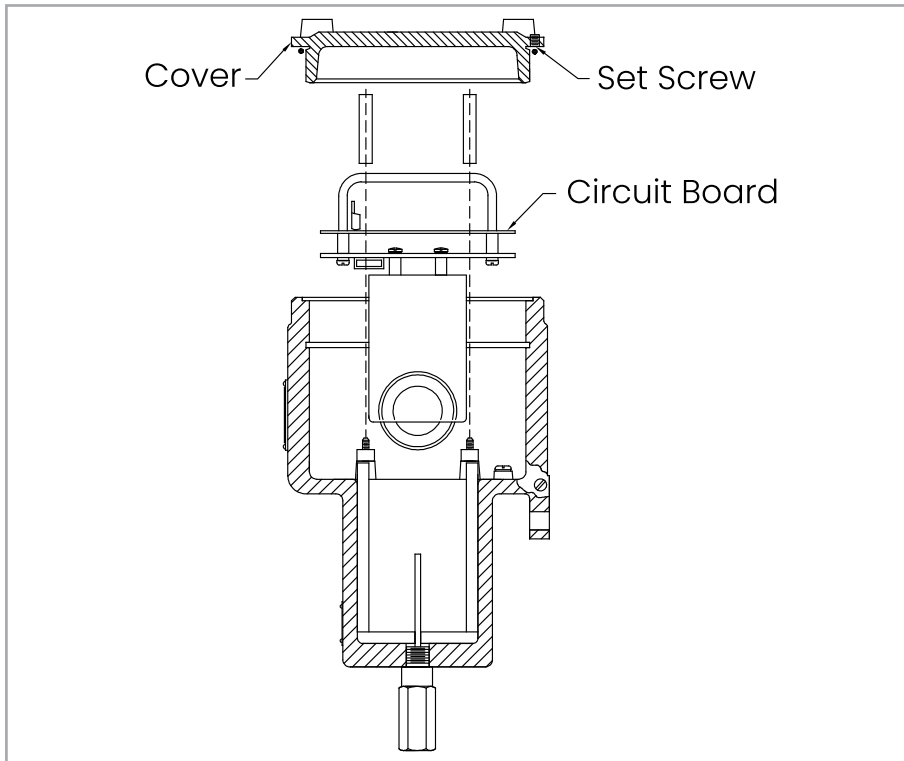
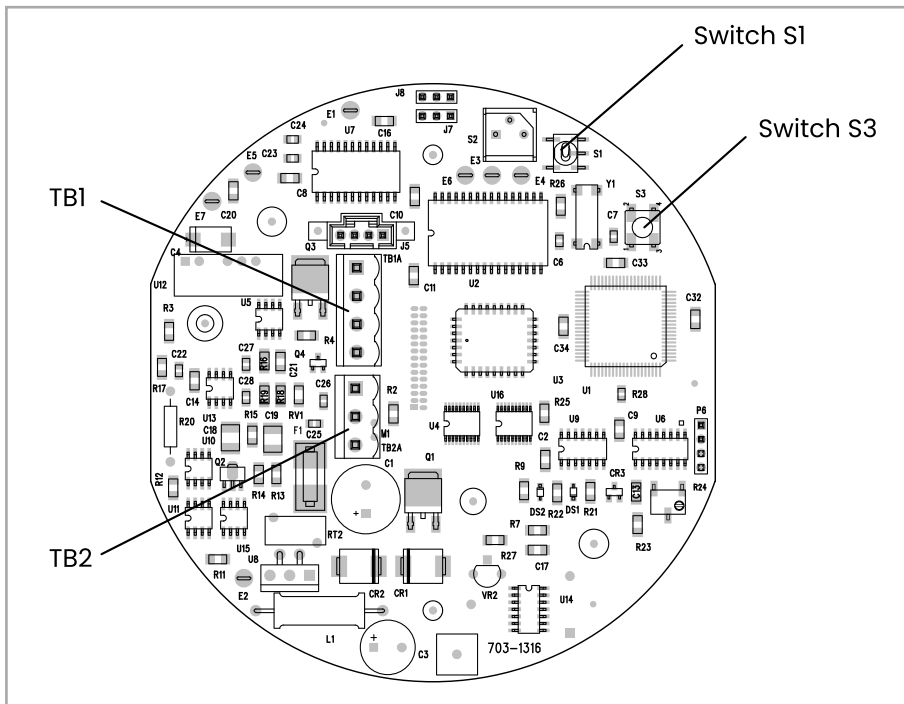

Figure 10: XMO2 Cover, set screw, and PCB
Figure 11: PCB calibration switches
To prepare the XMO2 for a field calibration, refer to *Figure 10* on *page 17* and perform the following preliminary steps:
3. Refer to *Figure 11* on *page 17*, and locate the following items:
**Note:** The XMO2 digital PCB (see Figure 11 below) is located directly below the cover (see Figure 10 above)
3. Using *Figure 11* on *page 17* as a guide, locate the Calibration Pushbutton (Switch S3). Depress the Calibration Pushbutton and hold it down for 20 seconds. During this time, the green light below the Calibration Pushbutton will go out.
Using *Figure 11* on *page 17* as a guide, locate the Zero/Span Selector (Switch S1). Set the Zero/Span Selector (Switch S1) to position "1" ("Zero").
Using *Figure 11* on *page 17* as a guide, locate the Calibration Pushbutton (Switch S3). Depress the Calibration Pushbutton and hold it down for 20 seconds. During this time, the green light below the Calibration Pushbutton will go out.
2. Using Figure 11 on page 17 as a guide, locate the Zero/ Span Selector (Switch S1). Set the Zero/Span Selector (Switch S1) to position "3" ("Span").
3. Using Figure 11 on page 17 as a guide, locate the Calibration Pushbutton (Switch S3). Depress the Calibration Pushbutton and hold it down for 20 seconds. During this time, the green light below the Calibration Pushbutton will go out.
To prepare for this calibration method, refer to *Figure 10* on page 17 and perform the following preliminary steps: